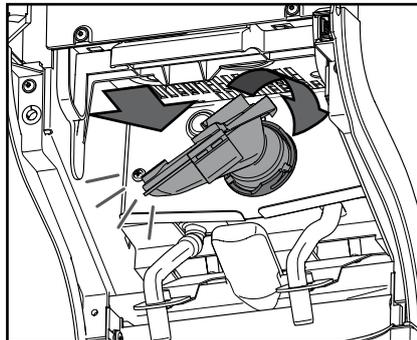

Fig. 40
8. Insert the mixing bowl and sealing ring, then rotate it clockwise until it engages (fig. 40).